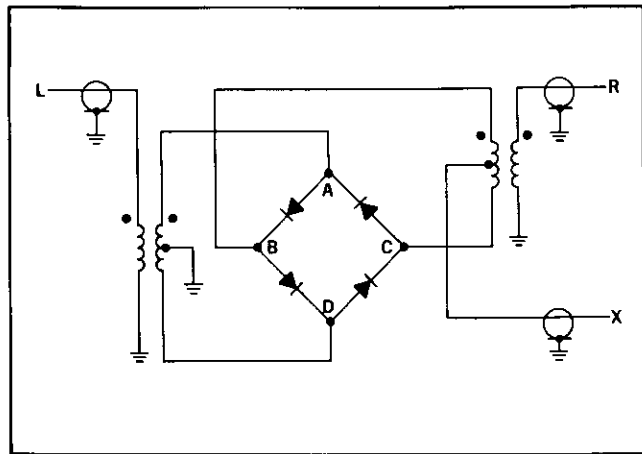

Figure 9. Schematic Diagram
26. The circuit of the Model 10514A, B Mixer (Figure 9) is commonly known as a double-balanced, or ring modulator. Note that the diodes are all connected with the cathode of one connected to the anode of the next, "short-circuiting" the transformer secondaries; this is not the same circuit as a rectifier bridge.
31. With no input at X, an input signal at L appears greatly attenuated at R. Applying a dc control current at X causes conduction of a pair of diodes, which then act like resistors in series in a link-coupling circuit. When sufficient dc current is applied at X to cause a pair of diodes to act like small resistors, the secondary windings of the left and right transformers (refer to schematic diagram Figure 9) are connected together and the input at L will be available at the output R. Attenuation is inversely proportional to the dc current applied at X.